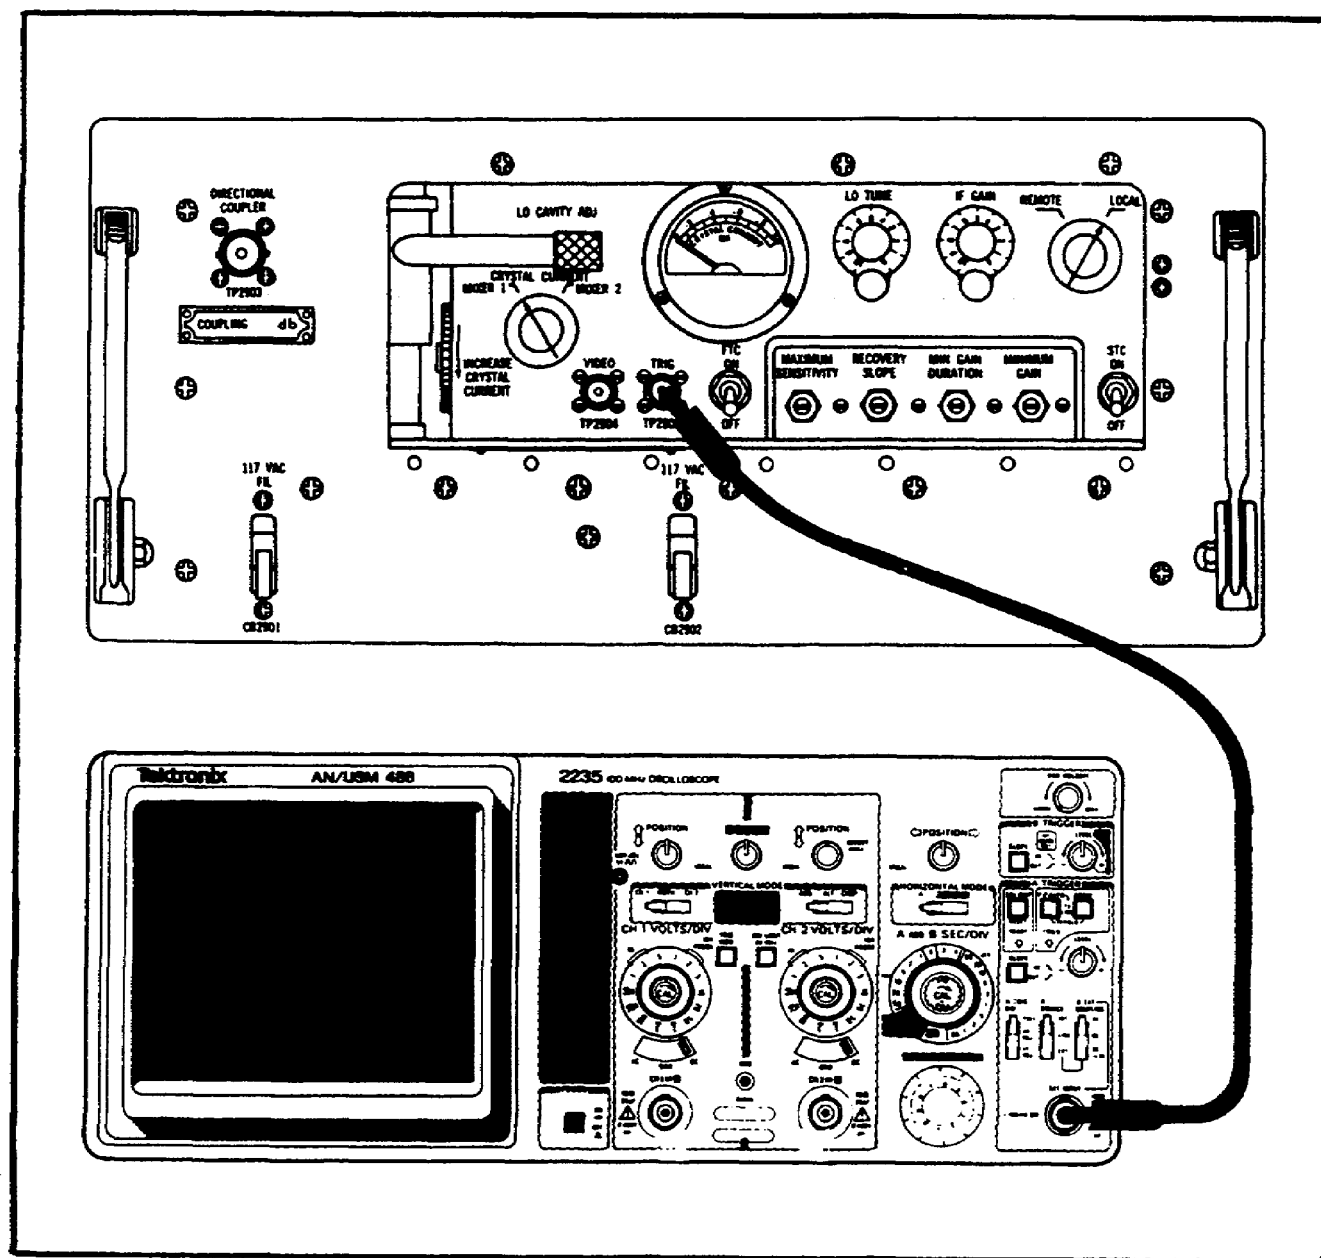

Figure 49. Oscilloscope to TP-2905.
g. Connect oscilloscope from external trigger jack on the oscilloscope to the trigger test point TP-2905 on the receiver radar, R-981/FPN-40. (See Figure 49.)
r. Connect the trigger test point TP-2905 on receiver, radar R-982/FPN-40 to the external input jack on the oscilloscope and make the necessary adjustments to prepare the oscilloscope. (See Figure 49.)